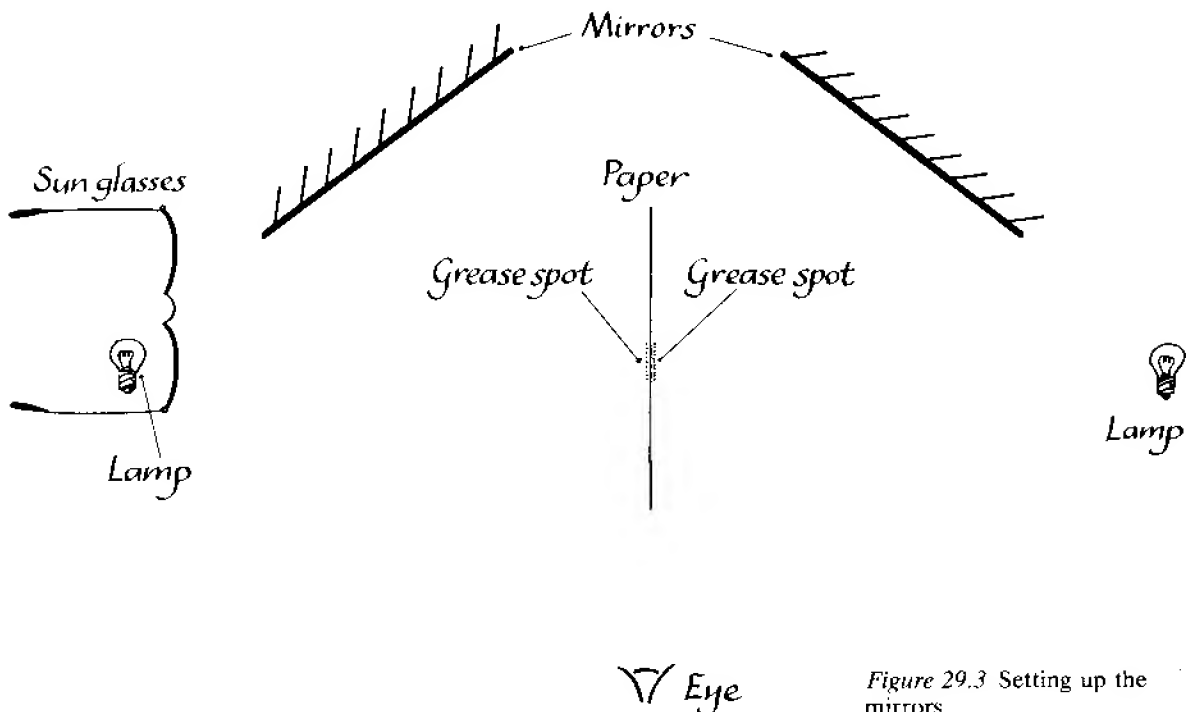

Figure 29.3 Setting up the mirrors
2. Set the piece of filter paper up vertically on a bench in a darkened room with a plane mirror on each side so that you can see both sides of the filter paper (see Figure 29.3).